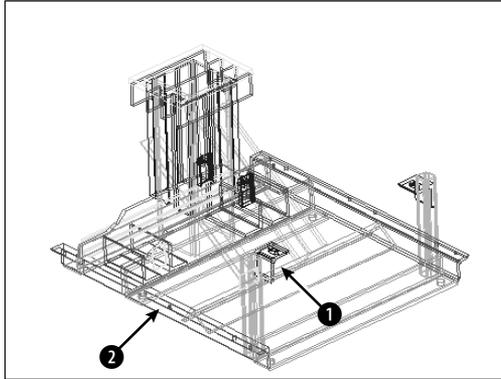

Figure 28-16: The DWF file as seen in Autodesk DWF Viewer.
2. Autodesk DWF Viewer opens automatically and displays the DWF file created in the previous Step-by-Step exercise. From the List tab in the left pane of the Autodesk DWF Viewer, choose the second sheet, labeled (2)ab28-01-Iso (11x8.5 in), as shown in Figure 28-16.
3. Press Ctrl and click **1** in Figure 28-16. The text shown in Figure 28-17 opens in a new Internet Explorer window. (You may have to minimize Autodesk DWF Viewer to see the text.) This comes from an Excel spreadsheet saved in text format.
5. Press Ctrl and click **2** in Figure 28-16. You see the horizontal angle in a new Internet Explorer window.